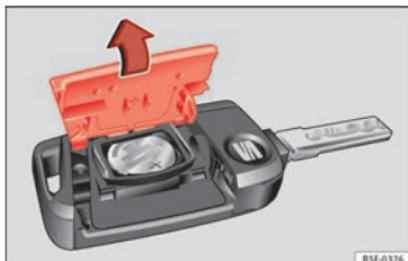

Fig. 93 Vehicle key: opening the battery compartment
- Remove the cover from the back of the vehicle key » **Fig. 93** in the direction of the arrow » **ⓘ**.
- Fit the cover as shown » **Fig. 93**, pressing it onto the vehicle key casing in the opposite direction to that shown by the arrow until it clicks into place.